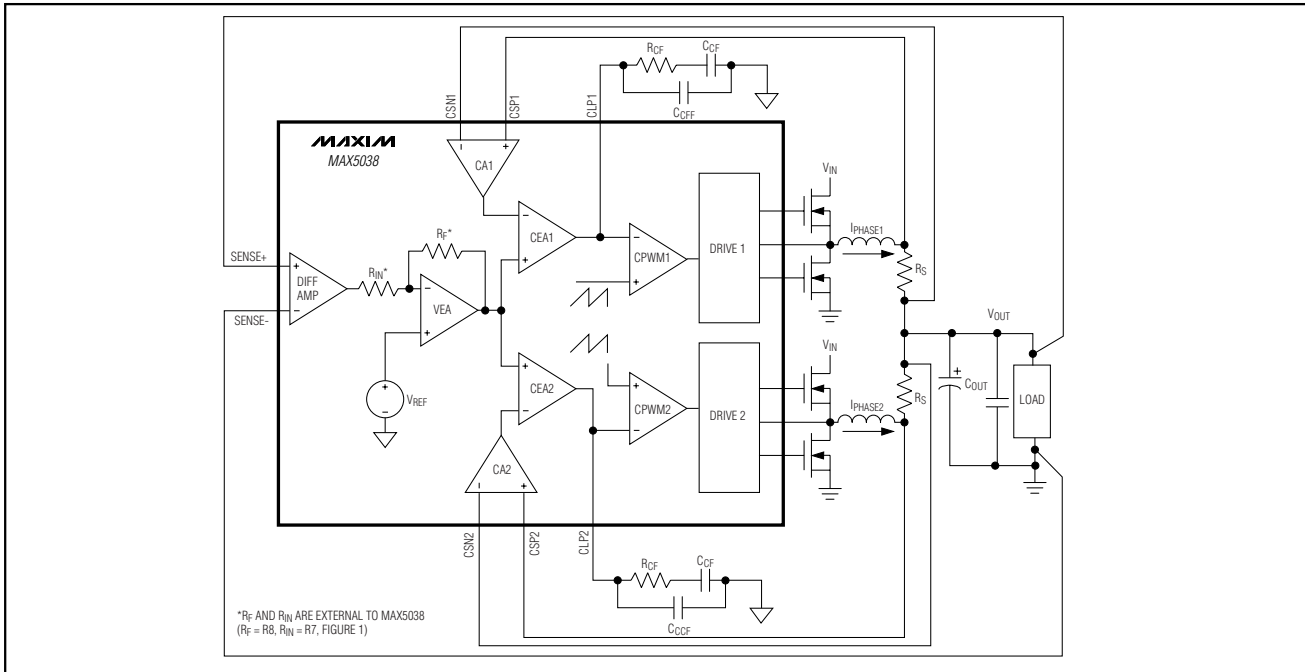

Figure 3a. MAX5038 Control Loop
The MAX5038/MAX5041 use an average current-mode control scheme to regulate the output voltage (Figures 3a and 3b). The main control loop consists of an inner current loop and an outer voltage loop. The inner loop controls the output currents (I_{PHASE1} and I_{PHASE2}) while the outer loop controls the output voltage. The inner current loop absorbs the inductor pole reducing the order of the outer voltage loop to that of a single-pole system.
The outer voltage control loop consists of the differential amplifier (DIFF AMP), reference voltage, and VEA. The unity-gain differential amplifier provides true differential remote sensing of the output voltage. The differential amplifier output connects to the inverting input (EAN) of the VEA. The noninverting input of the VEA is internally connected to an internal precision reference voltage. The MAX5041 reference voltage is set to +1.0V and the MAX5038 reference is set to the preset output voltage. The VEA controls the two inner current loops (Figures 3a and 3b). Use a resistive feedback network to set the VEA gain as required by the adaptive voltage-positioning circuit (see the *Adaptive Voltage Positioning* section).
Each phase of the MAX5038/MAX5041 has a dedicated transconductance current-error amplifier (CEA₊) with a typical g_m of 550 μ S and 320 μ A output sink and source current capability. The current-error amplifier outputs, CLP1 and CLP2, serve as the inverting input to the PWM comparator. CLP1 and CLP2 are externally accessible to provide frequency compensation for the inner current loops (Figures 3a and 3b). Compensate CEA₊ such that the inductor current down slope, which becomes the up slope to the inverting input of the PWM comparator, is less than the slope of the internally generated voltage ramp (see the *Compensation* section).
The differential amplifier (DIFF AMP) facilitates output voltage remote sensing at the load (Figures 3a and 3b). It provides true differential output voltage sensing while rejecting the common-mode voltage errors due to high-current ground paths. Sensing the output voltage directly at the load provides accurate load voltage sensing in high-current environments. The VEA provides the difference between the differential amplifier output (DIFF) and the desired output voltage. The differential amplifier has a bandwidth of 3MHz. The difference between SENSE+ and SENSE- regulates to the preset output voltage for the MAX5038 and regulates to +1V for the MAX5041.
The VEA output clamps to +0.9V (plus the common-mode voltage of +0.6V), thus limiting the average maximum current from individual phases. The maximum average current-limit threshold for each phase is equal to the maximum clamp voltage of the VEA divided by the gain (18) of the current-sense amplifier. This allows for accurate settings for the average maximum current for each phase. Set the VEA gain using R_F and R_{IN} for the amount of output voltage positioning required as discussed in the *Adaptive Voltage Positioning* section (Figures 3a and 3b).
Average current-mode control has the ability to limit the average current sourced by the converter during a fault condition. When a fault condition occurs, the VEA output clamps to +0.9V with respect to the common-mode voltage ($V_{CM} = +0.6V$) and is compared with the output of the current-sense amplifiers (CA1 and CA2) (see Figures 3a and 3b). The current-sense amplifier's gain of 18 limits the maximum current in the inductor or sense resistor to $I_{LIMIT} = 50mV/R_S$.